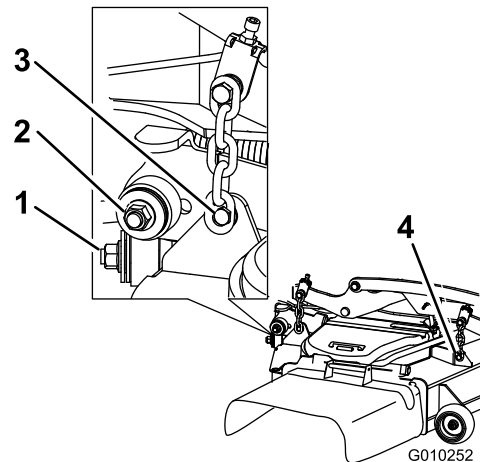

Figure 94
7. Remove and retain the hardware on both sides of the deck as shown in Figure 94.